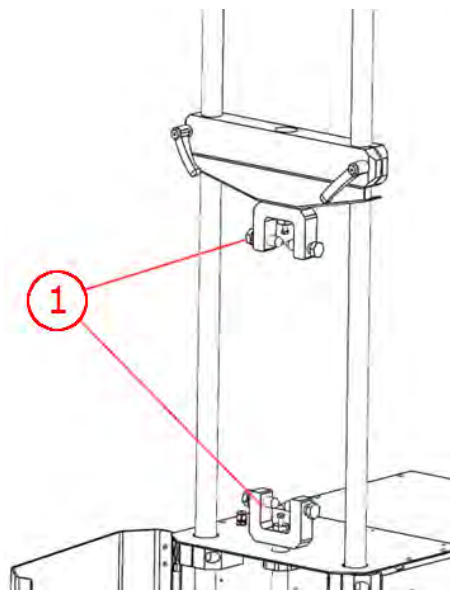

Figure 9
2. Use a wrench tool to unscrew both vertical bolts to release the clamp heads. (Figure 9 – Step 1)